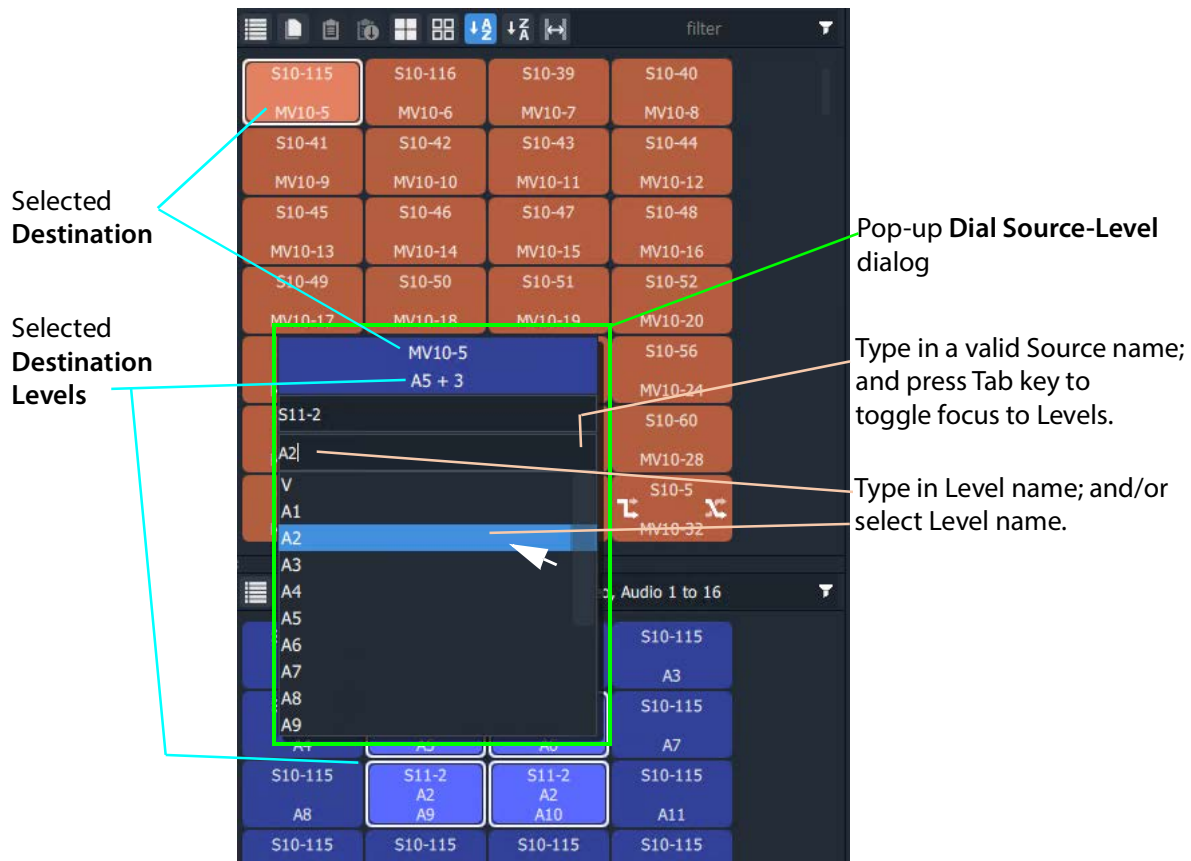

Fig. 13-24: Dial Source-Level Dialog
A default **Dial Source-Level** dialog pops up and shows the currently-routed Source name and Level. (See Figure 13-24.)
- 6 When the required (and valid) Source name is in the upper text box of the dialog, press the Tab key. (See Figure 13-24.) This toggles focus from 'Sources' to 'Levels'; the filtered list changes to listing Levels.